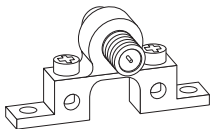

Fig. 1a
- b) Antenna Connection:** Connect one end of a coax cable to the antenna and the other end to a 75 ohm grounding block (not provided). (Fig. 1a) is an example of a 75-ohm grounding block.